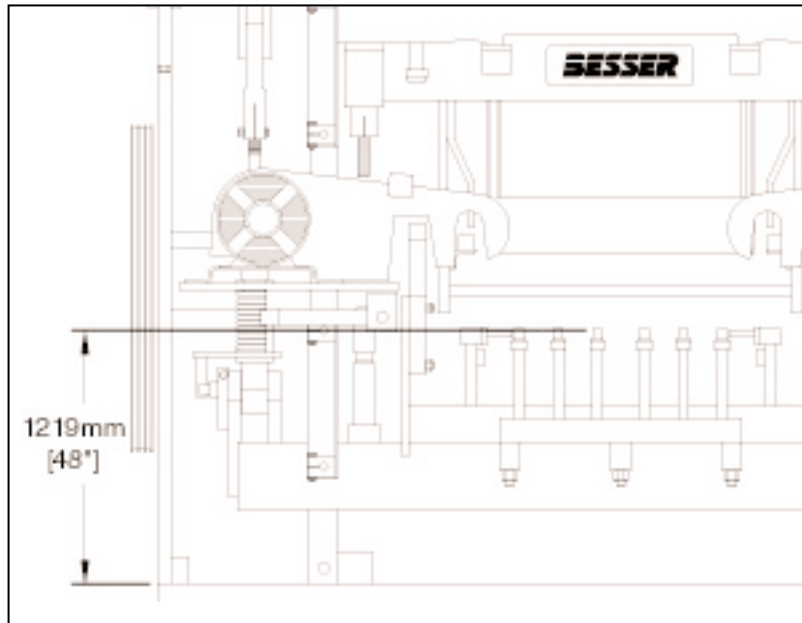
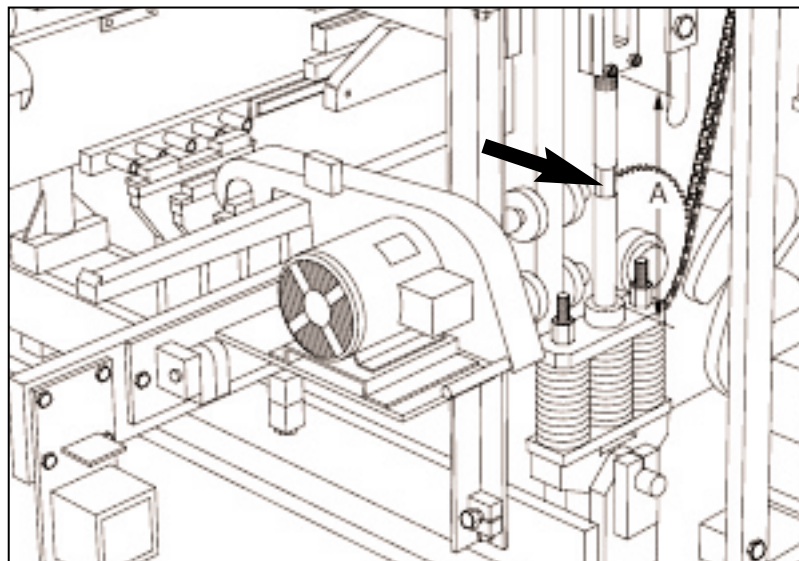

Figure 4.42 PALLET RECEIVER RUBBERS ABOVE BASE PLATE.
Figure 4.43 LINK ROD.
- 4.3.5 Run machine to "first stop" and adjust the pallet receiver links to obtain a dimension of **1219mm [48"]** from the top of the base plate to the tops of the pallet receiver rubbers (see figure 4.42). This adjustment should expose approximately **600mm [23 5/8"]** of link rod between the upper link end and the boss on the spring assembly (see dimension "A" on figure 4.43).